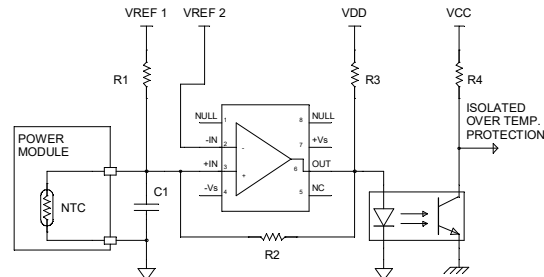

Fig 2: Example of NTC thermistor comparator circuit
The NTC thermistor can easily be used for module protection without computing the actual thermistor temperature. Comparing the voltage across the NTC thermistor to a reference voltage (see figure 2), and stopping the operation of the module if it becomes too hot reduces the risk of module failure.
If the NTC thermistor is placed in the bottom leg of a voltage divider as in figure 2, the resulting voltage at the input of the comparator decreases from almost $VREF_1$ to the voltage trigger level $VREF_2$ as the NTC thermistor temperature increases.
In practice, a comparator with hysteresis is used, and resistors R_1 and R_2 must be adjusted to set the amount of hysteresis. The hysteresis equals the output swing of the comparator attenuated by the resistive divider of R_1/R_T and R_2 . Assuming rail-to-rail output swing of the comparator in figure 2,
To increase the noise immunity of the NTC thermistor, which exhibits a resistance of a few thousand Ohms at rated temperature, it is recommended to parallel a capacitor. This capacitor (C_1 in figure 2) must be between 10 to 100nF. Even using a 100nF decoupling capacitor, which guarantees a very high noise immunity level, the time constant at 25°C is only 320 microseconds, e.g., $\tau = (R_1 // R_T) \cdot C_1$, more than 1000 times lower than the time constant of the NTC thermistor itself. In most cases, a 10nF decoupling capacitor is more than enough to ensure good noise immunity.
We know the values of $B_{25/85}$, T_{25} , and R_{25} : for example 3952K, 298.15K, and 50k Ω respectively. Once we determine the value of R_T we can compute the temperature. Referring to figure 2, the voltage V_T across the NTC thermistor is
- The NTC thermistor is used in a comparator circuit, which is isolated from the control logic by an opto-coupler (see figure 2). Usually other protections like short-circuit, over-current, over-temperature, etc. are also performed at the switch level. The resulting fault signals can all be summed together and transmitted via the same opto-coupler.